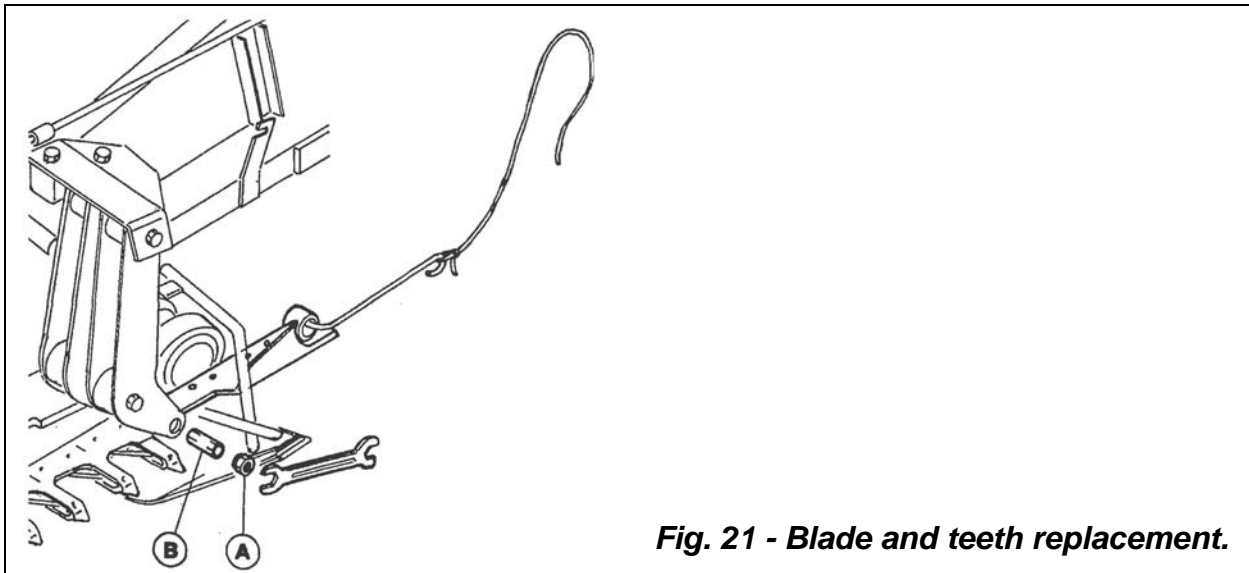

Fig. 21 - Blade and teeth replacement.
3. Loosen and remove nut (A) and bushing (B) (**see fig. 21**).
4. Use a cable to facilitate sliding out of blade section (**see fig. 21**).